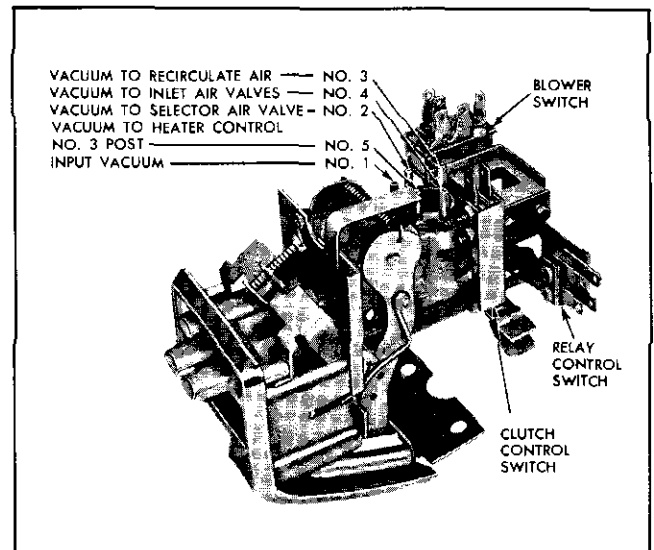

Fig. 6-47 Location of Clutch and Relay Control Switches
2. Remove clutch control switch by removing two switch attaching screws ( $\frac{1}{4}$ " (Fig. 6-47).
2. Remove relay control switch (Fig. 6-47).